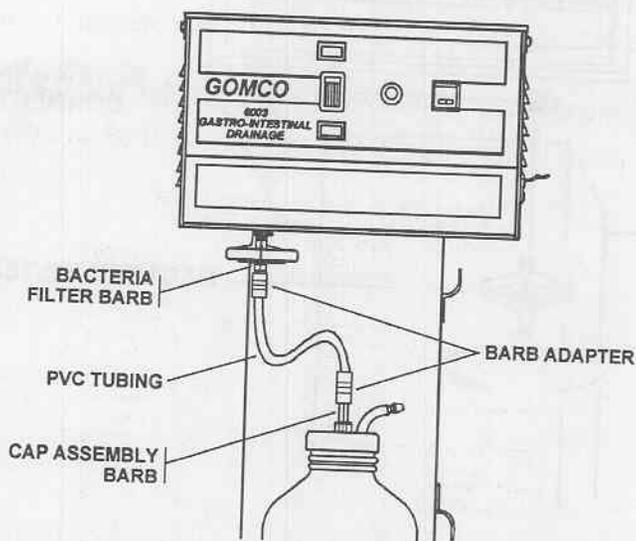

Figure 2-4. *PVC tubing connections.*
- (1) Locate and open a tubing package.
- (2) Connect the short (15-inch) length of PVC tubing to the bacteria filter barb fitting and to the cap assembly barb fitting stamped "TO PUMP" (fig 2-4).